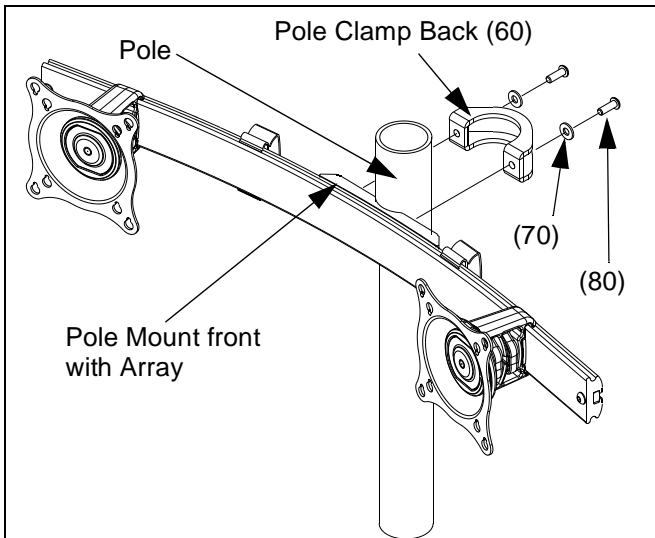

Figure 2: Mount Array on Pole
1. Assemble pole clamp back (60) to pole mount front using two FW (70) and two BHCS (80) using a 5/32" hex key (50). (See Figure 2)
2. Secure pole mount back to pole mount front and pole by tightening two BHCS (80) using a 5/32" hex key (50).